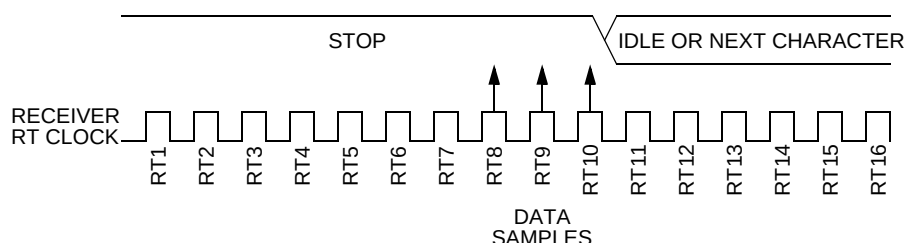

**Figure 13-11. Fast Data**
**Figure 13-11** shows how much a fast received character can be misaligned without causing a noise error or a framing error. The fast stop bit ends at RT10 instead of RT16 but is still there for the stop bit data samples at RT8, RT9, and RT10.
With the misaligned character shown in **Figure 13-11**, the receiver counts 154 RT cycles at the point when the count of the transmitting device is 10 bit times  $\times$  16 RT cycles = 160 RT cycles.
With the misaligned character shown in **Figure 13-11**, the receiver counts 170 RT cycles at the point when the count of the transmitting device is 11 bit times  $\times$  16 RT cycles = 176 RT cycles.